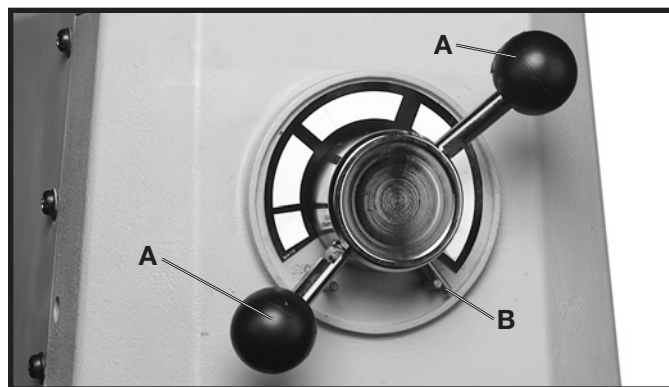

Fig. 25
DO NOT turn variable speed pilot wheel handles (A) Fig. 25, unless motor is running to avoid putting unnecessary strain on the drive belts and pulleys. The pilot wheel handles (A) are turned clockwise to increase speed and counterclockwise to decrease speed. When changing speeds, the pointer (B) will indicate the speed of the drill press.